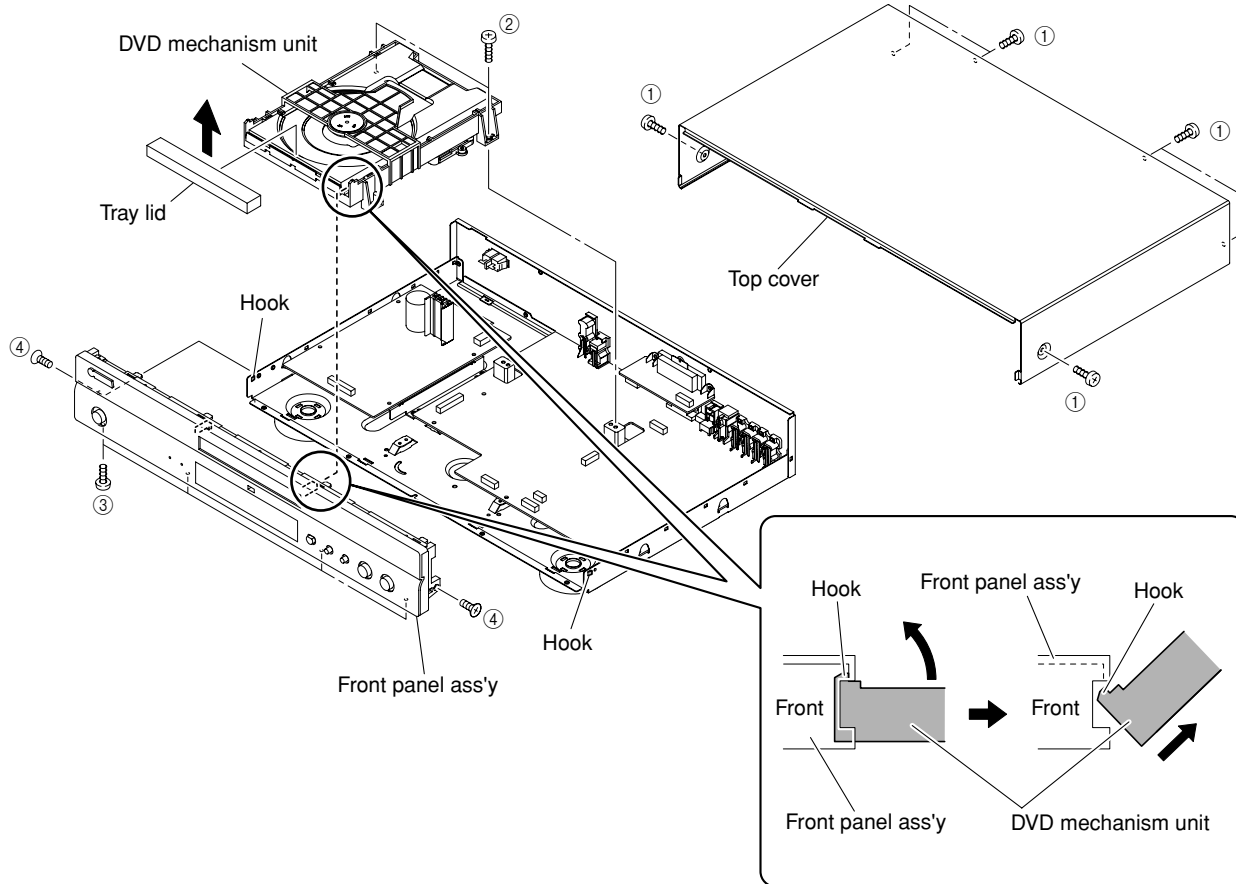

Fig. 1
- Remove 6 screws (①). (Fig. 1)
- Lift up the rear side of the top cover, then remove rearward. (Fig. 1)
- Remove the tray lid upward and close the tray. (Fig. 1)
- Remove 2 screws (②). (Fig. 1)
- f. Lift up the rear side of the DVD mechanism unit, then remove 2 hooks and remove rearward. (Fig. 1)
- a. Remove 4 screws (③). (Fig. 1)
- b. Remove 2 screws (④). (Fig. 1)
- d. Remove 2 hooks and then remove the front panel ass'y forward. (Fig. 1)